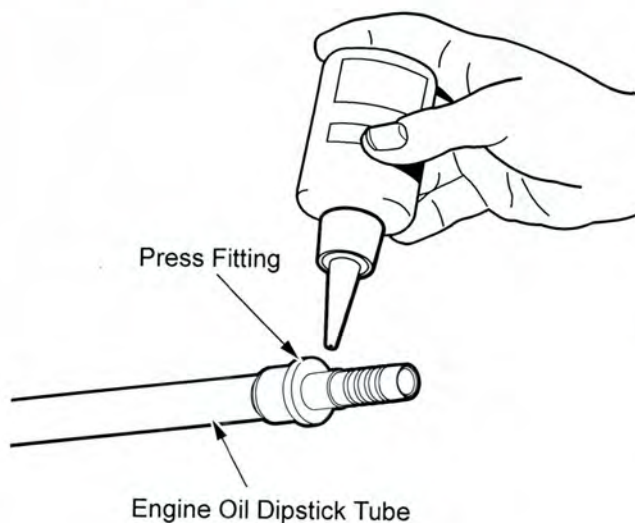

Figure 2
4. Apply cylindrical part bond locking compound to the press fitting on the new engine oil dipstick tube (A1030361-001) prior to installation (see Figure 2).